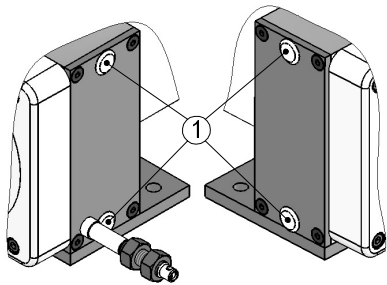

Fig. 3: Aeration holes
Casing of wire-actuated part is equipped with four plugs (1) for aeration (see fig. 3), if necessary. Water/humidity inside the casing can be easily evacuated by removing the plugs (1).